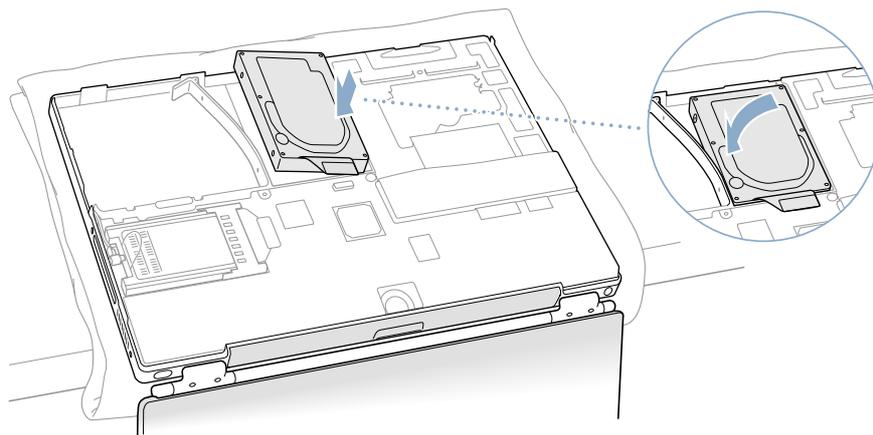

Figure 12
4. Insert the right side of the drive first, until the rubber stoppers fit securely into the holes in the bracket, and then insert the left side of the drive (**Figure 12**).